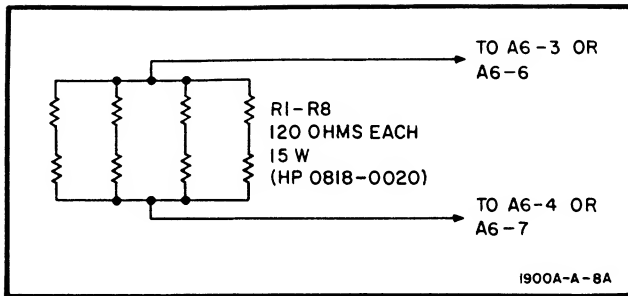

Figure 5-1. Dummy Load for Variable Power Supply
a. Connect Variable Power Supply Dummy Load, figure 5-1, between pin 6 and pin 7 of 15-pin Connector.
a. Connect Variable Power Supply Dummy Load, figure 5-1, between pin 3 and pin 4 of 15-pin Connector.